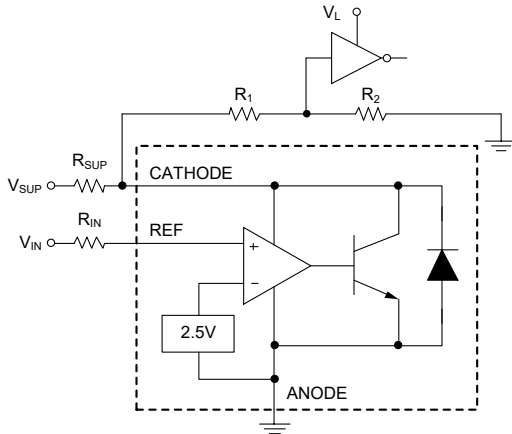
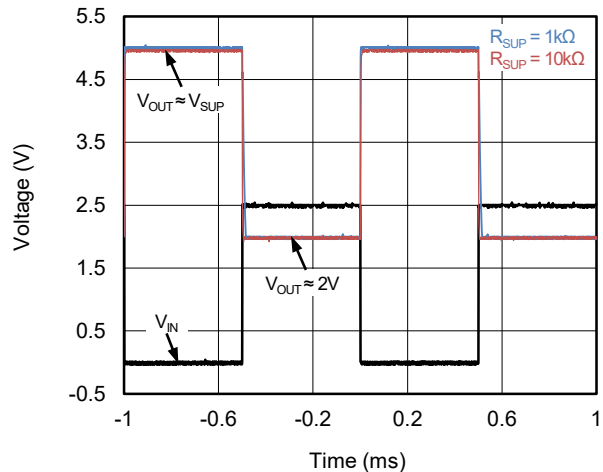

Figure 3. Comparator Application Schematic
Figure 4. Output Response with Various Cathode Current
As shown in Figure 3, the SGM431x is always used as a comparator with 2.5V integrated reference in application, for this design, the parameters are listed in Table 1. The REF pin voltage is compared with reference inside and is amplified. Also, the SGM431x responds fast if the operation current I_{KA} is large enough. In Figure 4, it is clear to see that the output response with $R_{SUP} = 1k\Omega$ is much faster than $R_{SUP} = 10k\Omega$. The maximum cathode current of I_{MIN} is 0.7mA, any cathode current below this value will cause a low response (low open-loop gain) for the application of comparator.
The input resistance should be less than 10k Ω in order to minimize the voltage drop between V_{IN} and V_{REF} . The readability of the logic output of the comparator should be guaranteed so that it can be received by the next stage. In Figure 4, the V_{IL} of the comparator logic is 2V, which is sufficient for a 5V supply voltage. However, for the logic stage which is powered by 1.8V or 3.3V, the V_{IL} is hard to be figured out. To accommodate this, a voltage divider should be taken into account. Due to the Open-Collector (OC) output stage, the V_{IH} is equal to the voltage of its power supply. When the voltage divider is used to attenuate V_{IH} , please make sure that the sum of R_1 and R_2 is greater than the resistance R_{SUP} to the power supply.